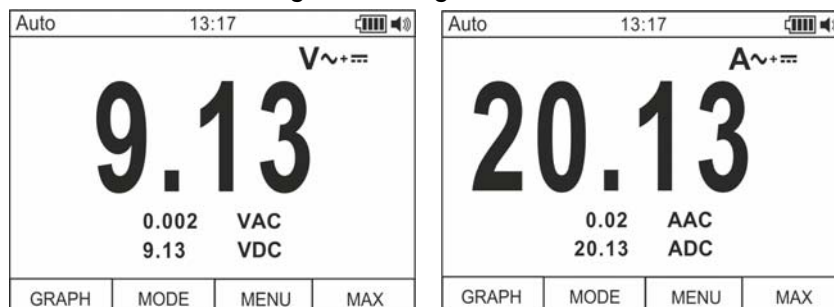

Fig. 3: AC+DC voltage or current measurement description
2. Press the **F2** key selecting the “ V_{\sim} ” or “ A_{\sim} ” modes (see Fig. 3)